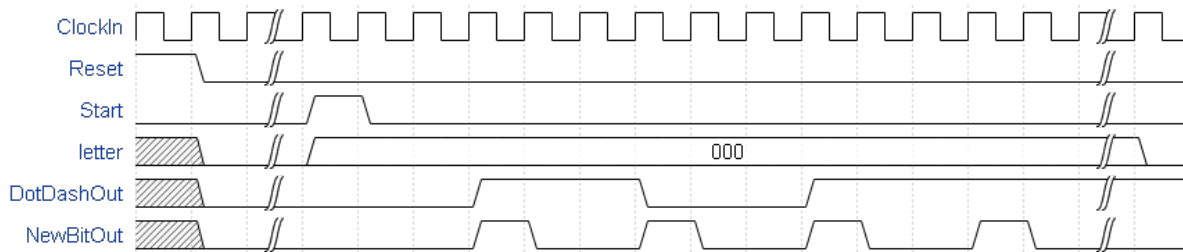

Figure 3: Timing diagram for Part 3
Figure 3 shows a timing diagram of how your circuit should operate, for the letter A. The letter is selected by the `Letter` input using 000 for A, 001 for B, etc. The Morse code for the letter is output when the `Start` signal is asserted, for 1 clock period. Figure 3 shows the first 4 bits of A being flashed, for a very low clock frequency. Using the clock in the marker or the FPGA will cause the `DotDashOut` signal to stay 0 or 1 for many more clock cycles.
1. There may be many cycles between **Reset** being de-asserted and **Start** being asserted. This is shown with the two wavy lines in Figure 3.